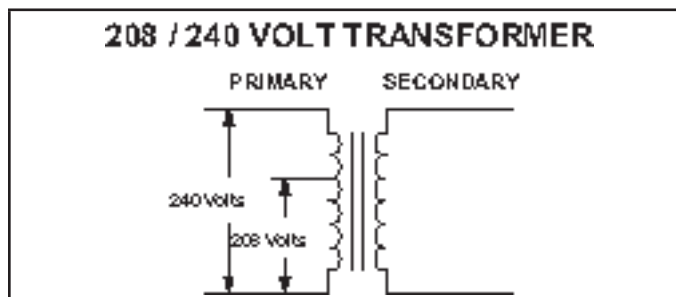

FIGURE 20. Converting Unit from 240VAC to 208VAC
- 2 - Slide the control panel into the notch on the electric heat mounting panel (FIGURE 19). Using the screws removed in Step 1, secure the control panel to the end panel, as shown in FIGURE 20.